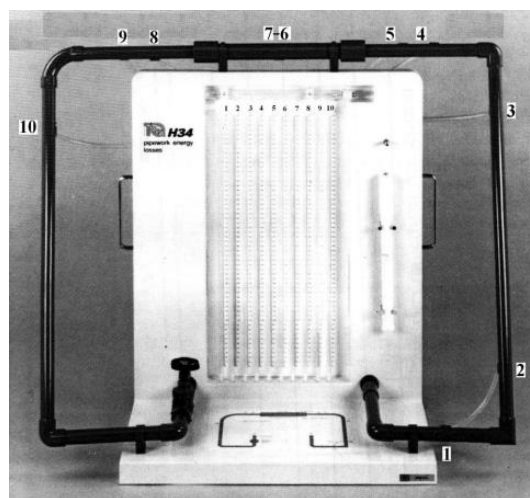

Figure1: Minor (local) head losses experimental apparatus
- Points 1-2-3-4-5-6-7-8-9-10 show the location of the piezometer (manometer) tubes located in the experimental setup (see Figure 1). The piezometer heads are read from the piezometer (manometer) board on the apparatus.